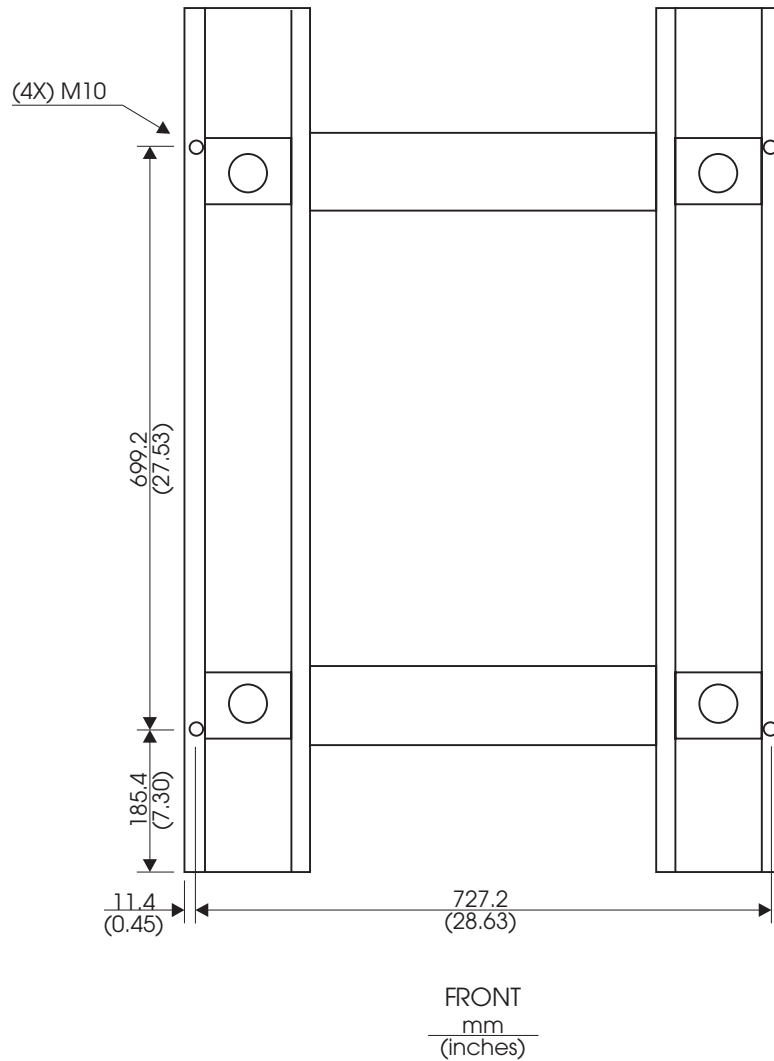

Figure 2-13. Locations of M10-tapped tie-down holes on 1.93 m and 1.36 frames
1.93 m and 1.36 frame tie-down locations: The 1.93 m and 1.36 frames have four M10 tapped holes on the bottom of the frame for attachment to customer-supplied tie-down devices. See Figure 2-13 on page 2-17 for hole locations.